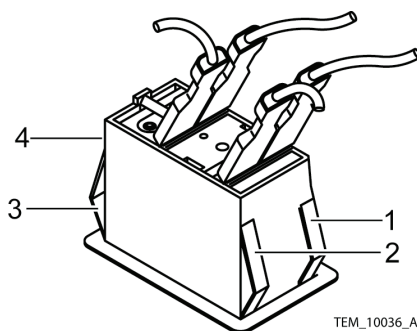

Figure 22. Power Switch Clips and Wires
7. Disconnect the four wires from the power switch. See Figure 22.
8. Depress the four clips on the power switch and push the power switch through its hole in the front cover assembly. See Figure 22.